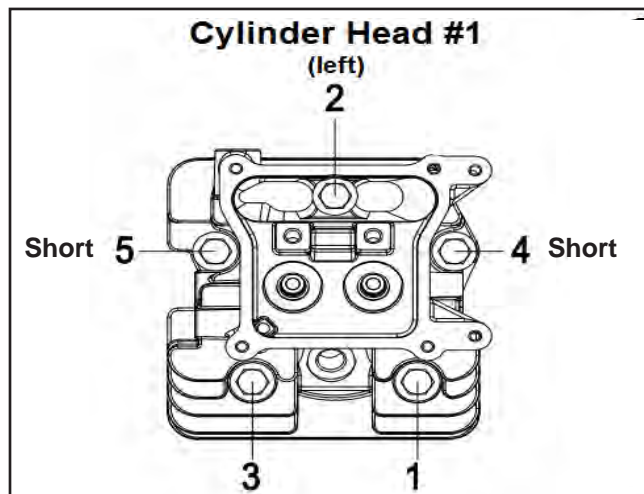

Figure 26
**NOTE:** There are three longer bolts and two shorter bolts for each head (Figure 26 and 27).